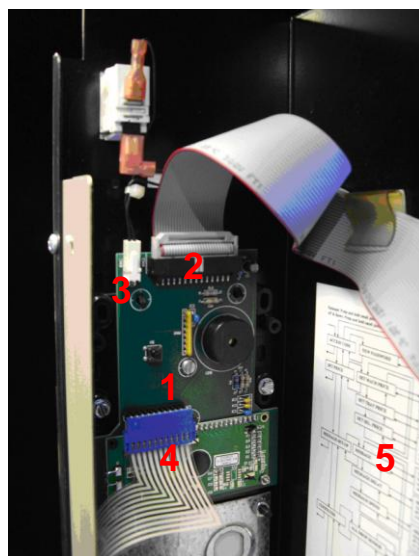

Figure 8
12. Remove ¼" HEX screw securing the original display PCB to the mounting bracket. Remove the original display PCB and install new display PCB and reattaching using the (1) screw just removed. Install new display PCB and bracket assembly in the machine as shown. See Figure 8.
13. Attach (2) VE5802C new display harness, (3) door interlock switch and (4) selection keypad as shown. See figure 8
14. Affix (5) VE5821 programming label to inside of monetary panel as shown. See figure 8.